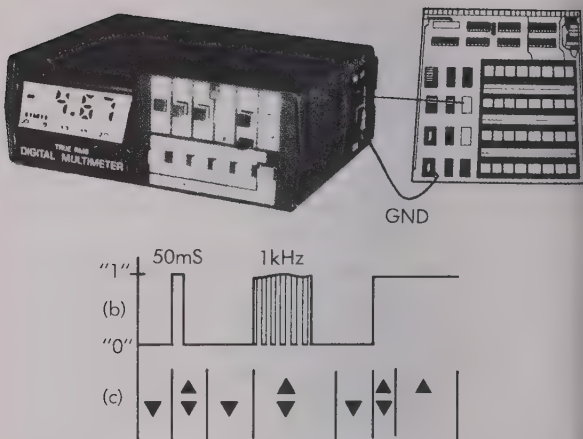

Figure 6-2. Use of 467 as a Logic Probe
6.4.3 As an example of the logic probe function of the 467, consider a digital circuit putting out a string of pulses with various repetition rates. The circuit uses CMOS, with a "1" being +15 V DC and a "0" being circuit ground. The test setup and pulse train are shown in Figure 6-2.
6.4.4 To analyze the logic waveform shown in Figure 6-2:
- The logic waveform in Figure 6-2 will produce the display shown. Note that the reading in the numerical